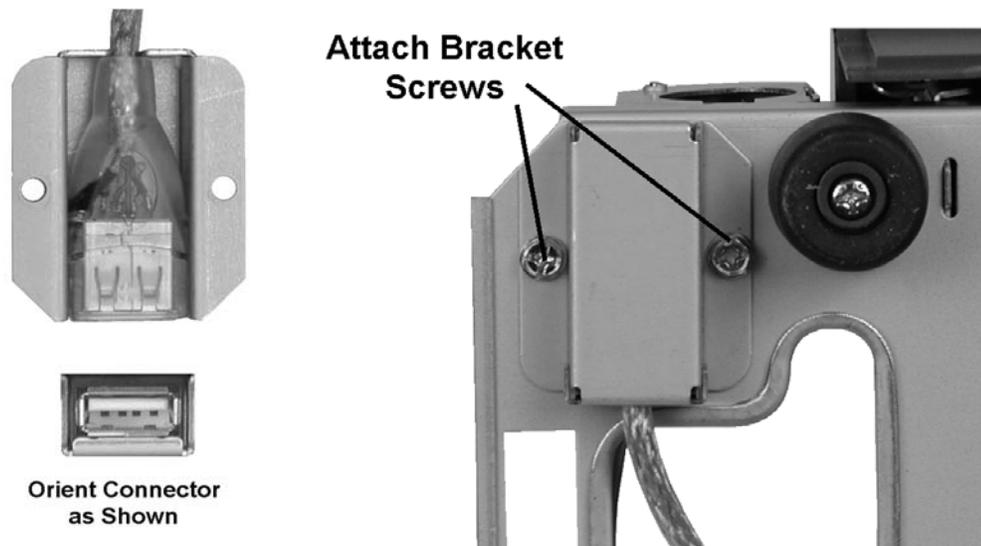

Figure 3-39: Installing the Extension Cable Bracket
1. Insert the extension receptacle into the bracket. The color of the extension cable may vary from that shown in the illustration. The receptacle should be oriented as shown on the bottom left side of Figure 3-39.
2. Install the bracket on the underside of the I/O panel tray and fasten with two screws as shown on the right side of Figure 3-39.